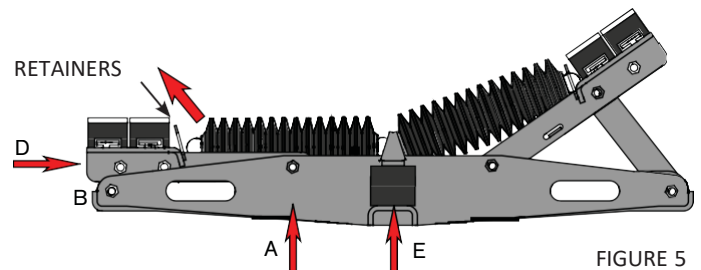

FIGURE 5
6. Slowly lower the Wing Arm until it is resting on the foot pads as shown in figure 5 and 6. On some configurations the Retainers can bend to facilitate removal of the roll for replacement.